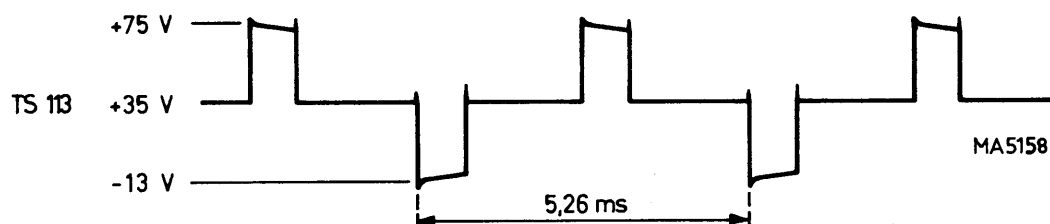

Fig. 45. Collector signal of TS113
- Check the lamp voltage on the collectors of TS113 and TS114 (see Fig. 45). When a lamp is defective, the waveform will deviate.